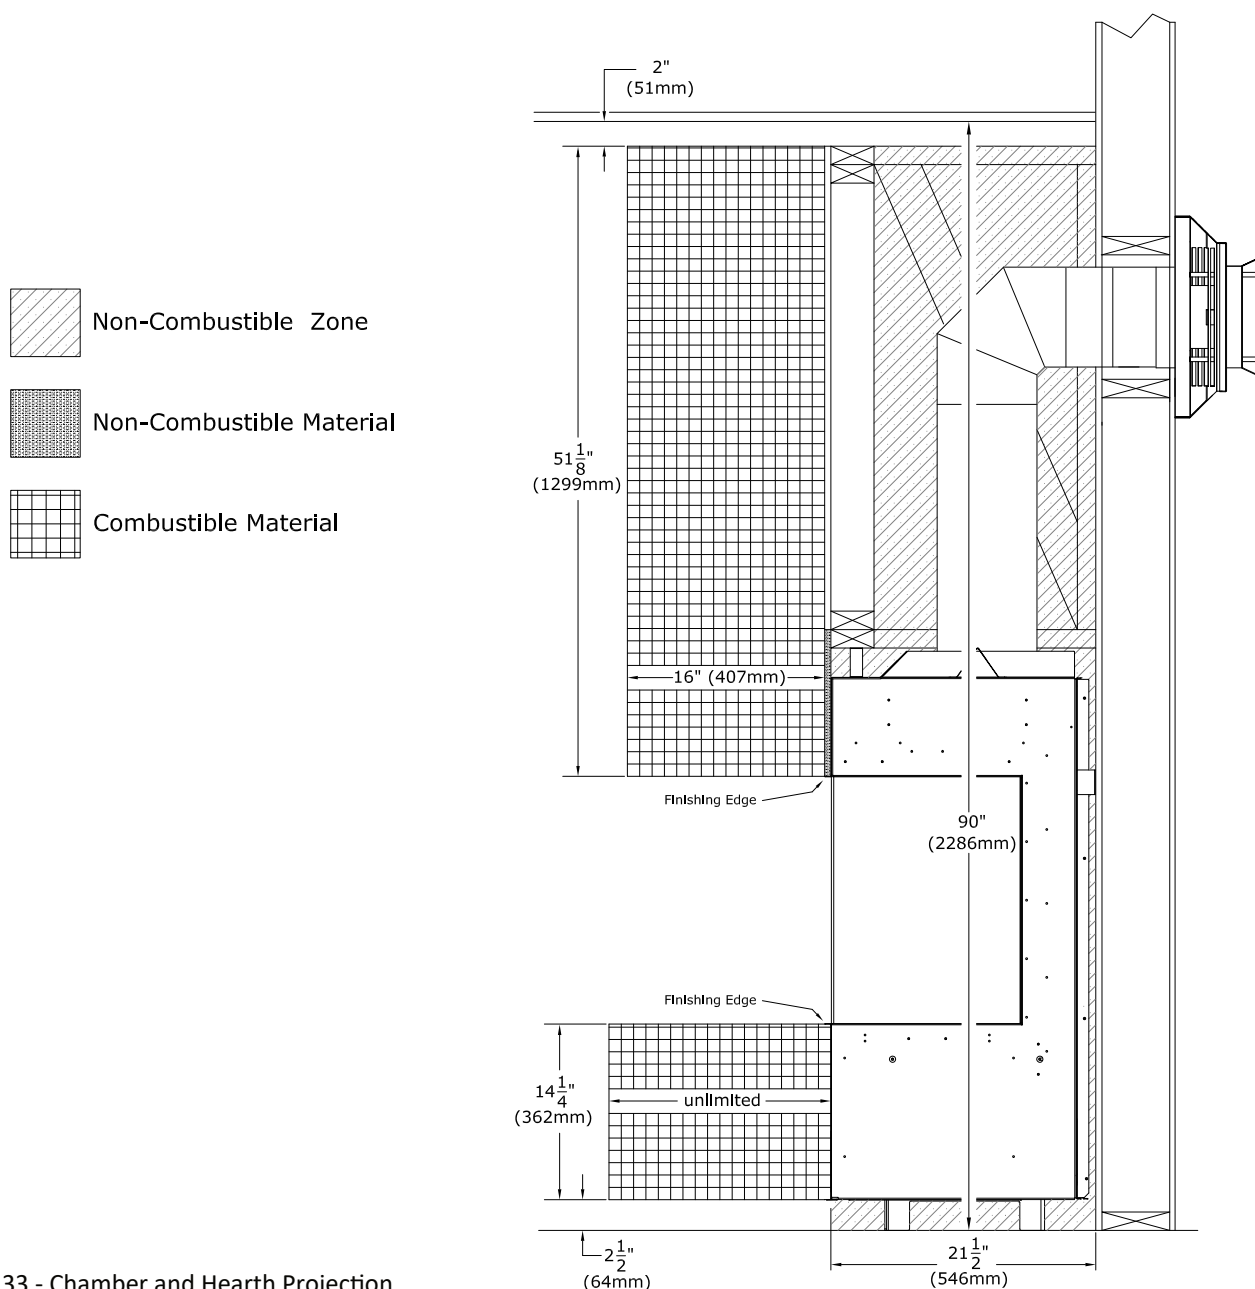

Figure 3.33 - Chamber and Hearth Projection
- **Combustible Chamber Projections:** A maximum of a 16" (406mm) chamber projection can be installed flush at the side and top finishing edge of the fireplace. See Figure 3.33.
Figure 3.33 shows a 16" front chamber projection with a vented cavity. The air intake and heat release openings of the fireplace chamber must maintain their clearances for the option you have choose throughout the entire fireplace chamber and projection.